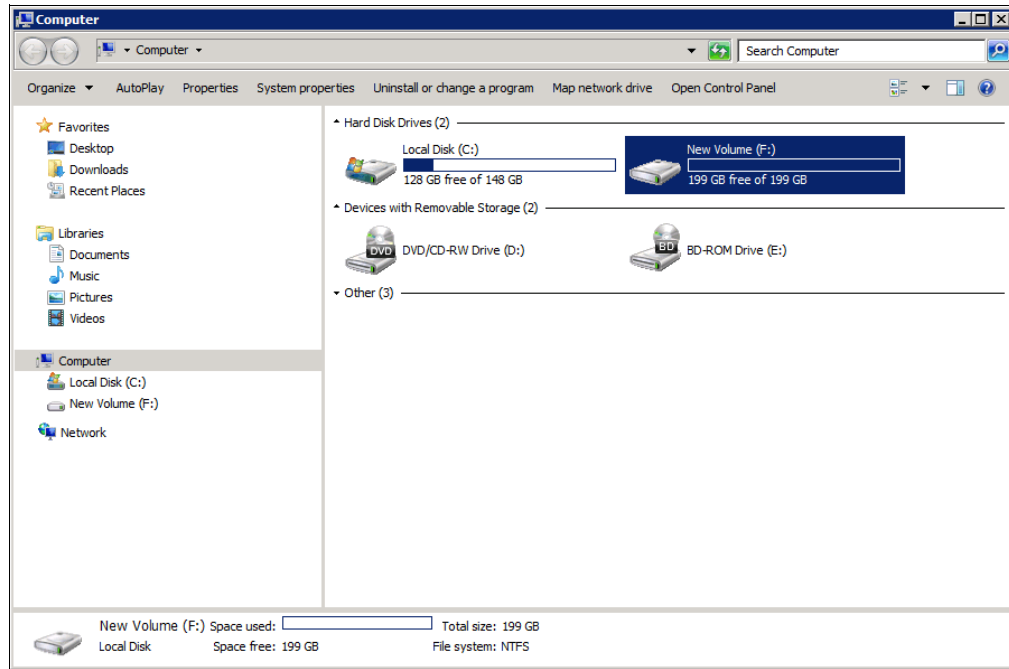

Figure 16-20 Logical drive is ready for use
5. You can now access the logical drive on the DCS3700 storage subsystem as drive letter F, as shown in Figure 16-20.